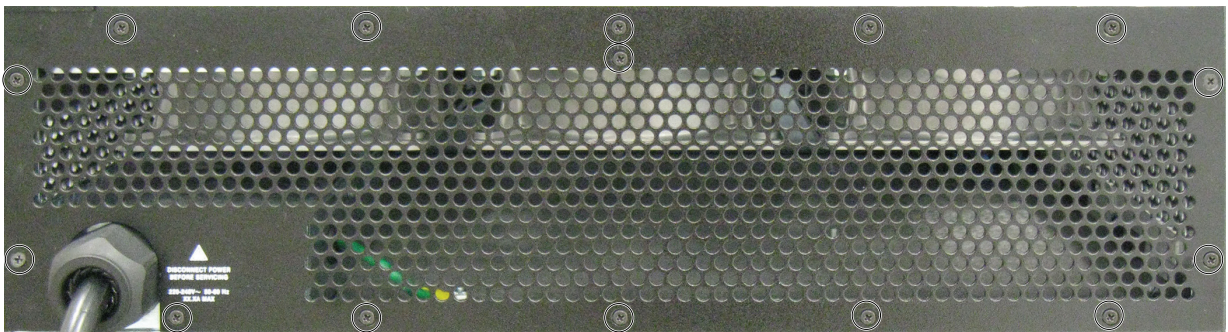

Figure 42. Power Panel Screw Locations
2. On the rear of the matrix switcher, remove and retain the 15 screws that secure the lower panel (the panel with the power connection) in place (see figure 42).